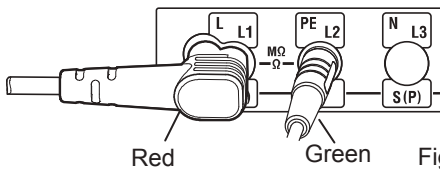

Fig.9-2
- (1) Select INSULATION function with the rotary switch.
- (2) Press F1 switch and select the test you wish to do: "INSULATION" or SPD: "SPD (VARISTOR)".
- (3) Press F2 switch and select the desired voltage range. (When selecting SPD test, the range is fixed to 1000V.)
- (4) Insert the test leads to the L and PE terminals on KEW 6516/ 6516BT respectively as shown in Fig. 9-2.